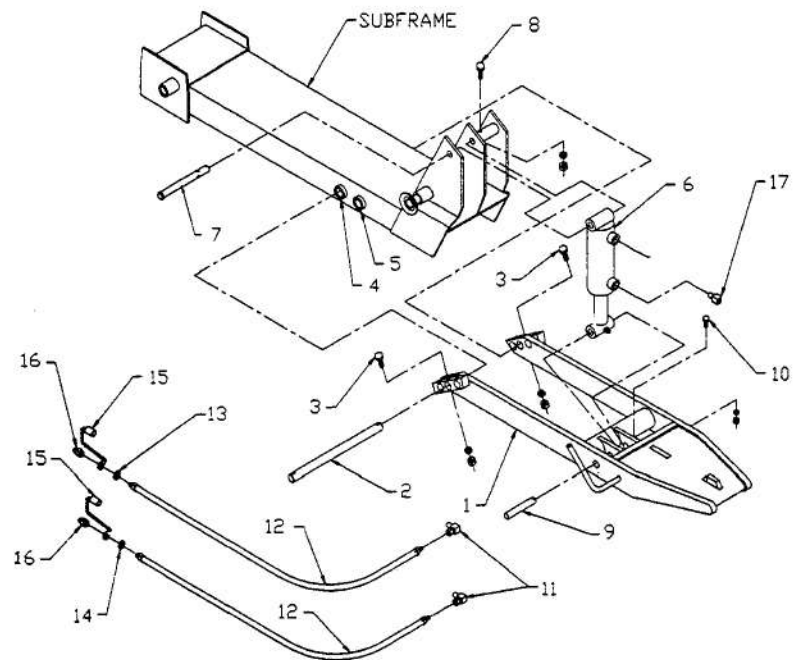

FIGURE 16
- a) Attach the previously marked hole (Step 2, f) in the male hitch (fig. 16, item 1) to subframe using a $3\frac{1}{32}$ " diameter X $14\frac{3}{8}$ " pin (fig. 16, item 2), locked with two $\frac{5}{16}$ " X 2" bolts, lockwashers and nuts (fig. 16, item 3).
NOTE: For use of blade, attach male hitch to the rear hole of subframe (fig.16, item 4). For snowblower, use the front hole in the subframe (fig.16, item 5).
- b) Install lift cylinder (fig. 16, item 6) base end at top of subframe (ports on front side) using a $\frac{3}{4}$ " diameter X $7\frac{5}{8}$ " pin (fig. 16, item 7). Make sure hole in pin is vertical and lock pin at top of subframe using a bolt $\frac{1}{4}$ " X $1\frac{3}{4}$ " (fig. 16, item 8) with lockwasher and nut .
- c) Install cylinder rod end to weldments on male hitch (grease fitting on front side) using a $\frac{3}{4}$ " X $4\frac{1}{2}$ " pin (fig.16, item 9). Make sure hole in pin is vertical and lock pin in male hitch using a bolt $\frac{1}{4}$ " X $1\frac{3}{4}$ " fig. 16, item 10) with lockwasher and nut .
- d) Install one 90° elbow, $\frac{3}{8}$ " male X $\frac{3}{8}$ " fig. 16, item 11) female in each cylinder port using thread sealant, first placing a flow restrictor (fig. 16 item 17) in one elbow before threading elbow in lower port. Position upper fittings at 9 o'clock position lower fitting 10 o'clock. Install one $\frac{3}{8}$ " X 72" hose (fig. 16, item 12) in lower elbow, and the $\frac{3}{8}$ " X 72" hose (fig. 16, item 12). in the upper elbow . Identify the other end of one hose with a red plastic ring (fig. 16, item 13). and the other hose with a blue plastic ring (fig. 16, item 14).
- e) Install a male quick coupler with rubber dust cap (fig. 16, item 16) at free end of each hose using thread sealant (rubber dust cap ring (fig. 16, item 15). must be on hose before installing coupler).